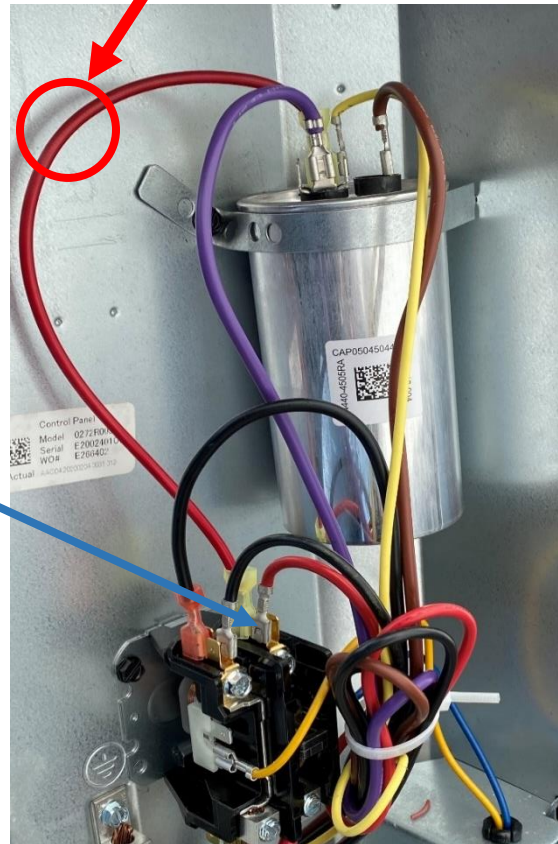

Figure 5
Follow the wire that connects the C terminal on the run capacitor to the contactor. **Do not remove or disconnect this wire. It is identified here only to show the side of the contactor we are referencing.** Wires are arranged in a group on the contactor. The four spade terminals and the screw terminal make up one group. Locate the compressor “R” terminal wire located on this group of terminals. This wire is usually a heavy gauge wire connected to the screw part of the contactor. It may also be on a quick connect as shown in figure 5 on smaller compressors, shown by the blue arrow.
**Compressors with an RLA over 18 amps should Not use the spade connection like shown in figure 5 but should connect using a ring, fork terminal connector or direct wire connection under the screw.**